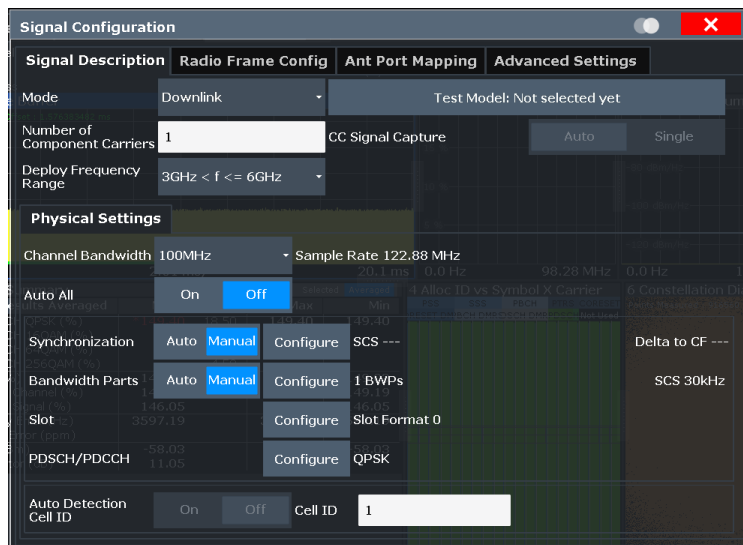

Fig. 2-10: Signal description configuration window in the 5G NR mode on the FSW
- i Signal description settings is in Fig. 2-10,